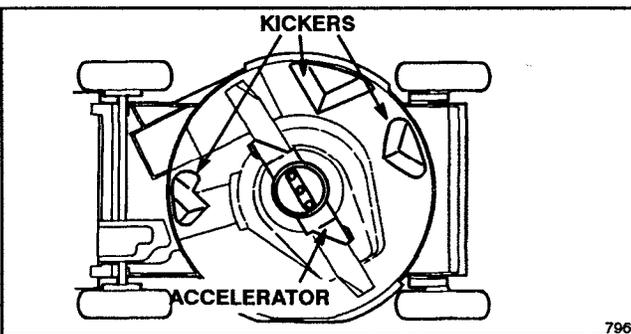

Figure 5
- Three "kicker plates" positioned on the underside of the mower deck in strategic positions (Fig. 5)